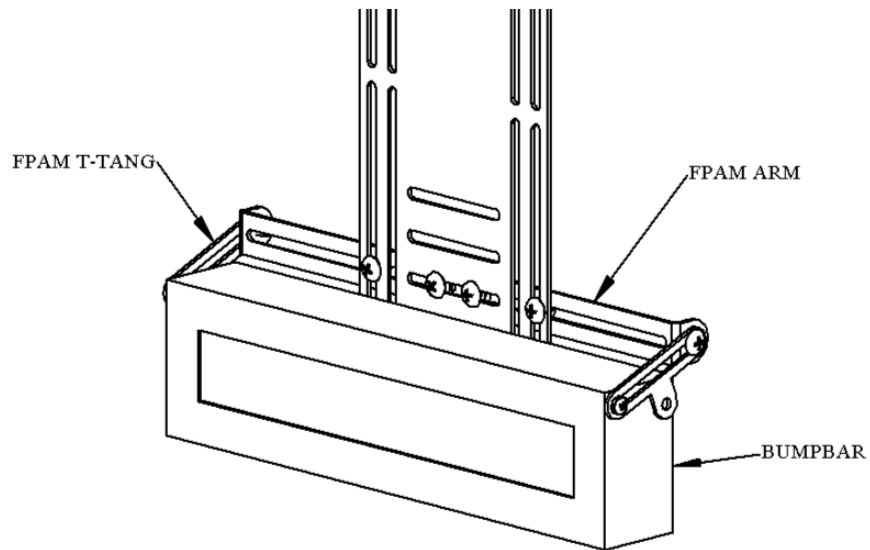

Figure 2 - FPAM with bump bar attached
6. Assemble the hardware kit to create two arms so that the slots in the arms or tee tangs align with the chassis screw holes on the sides, bottom, or back of the bump bar (See Figure 2). The other ends of the arms align with the slots on the FPAM mounting plate.